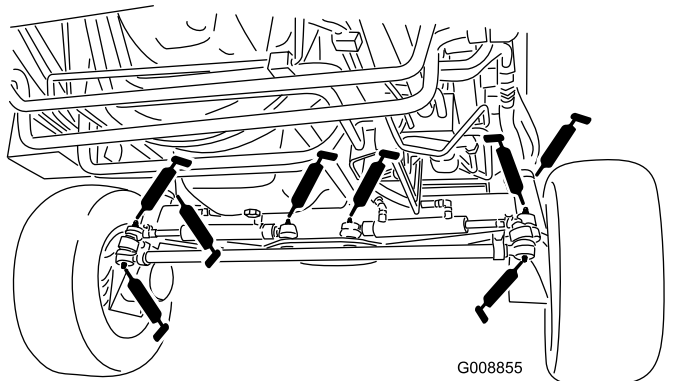

Figure 87
- 4 steering-cylinder-ball joints (Figure 87)
- 2 tie-rod-ball joints (Figure 87)
- 2 king-pin bushings (Figure 87)